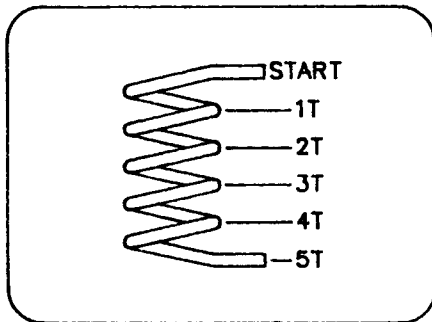

FIGURE 1
7. Cut L10 and L13 from the coil stock provided. Notice that these coils are not close wound, the spacing between the coils should be equal to the diameter of the wire. Form the leads and space the windings as shown in page 7, figures 1 & 2. Solder each of the coils into the board as it is completed.